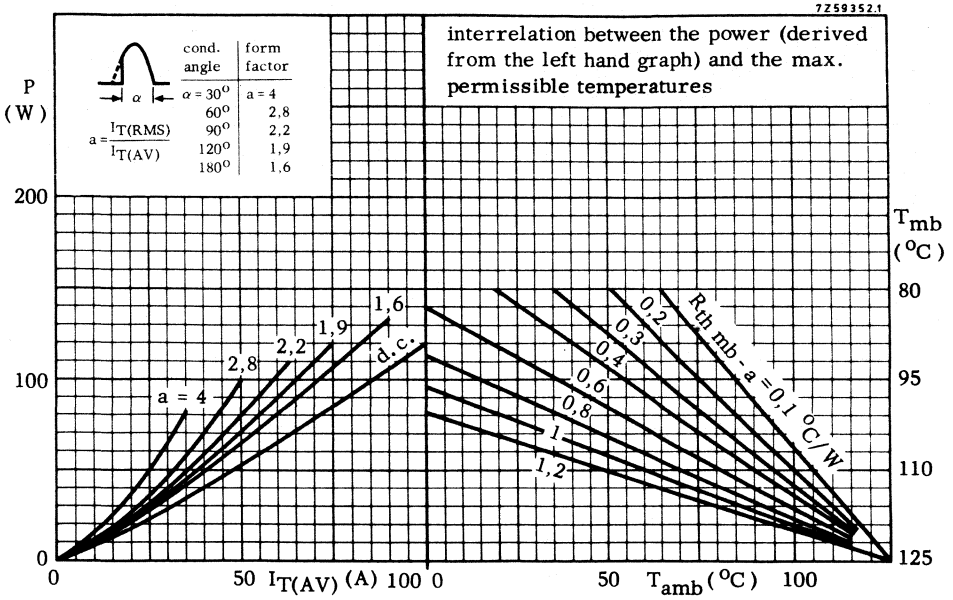
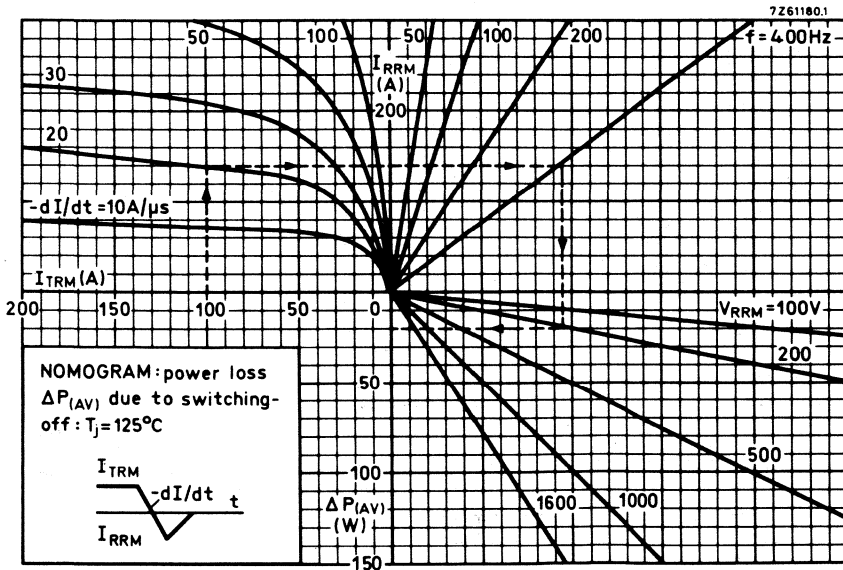

Fig. 4.
Fig. 14.
* To ensure thermal stability: $R_{th j-a} < 0,75$ °C/W (d.c. blocking) or $< 1,5$ °C/W (a.c.). For smaller heatsinks T_{jmax} should be derated. For a.c. see Fig. 4.
For applications in which the thyristor is forced to switch from an on-state current I_{TRM} to a high reverse voltage at a high commutation rate ($-dI_T/dt$), consult Fig. 14 (nomogram) to find the increase in total average power. This increase must be added to the loss from the curves in Fig. 4.